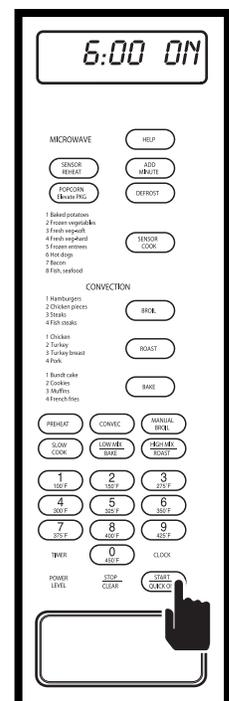

Figure 3-50. Press QUICK ON/START Key
6. Press QUICK ON/START key and start time will appear on display along with the word “**ON**” (See Figure 3-50). The microwave will now be energized at the time of day specified, for amount of time specified and at power level specified. At the end of the cooking time, “**END**” will flash on display and alarm will beep.